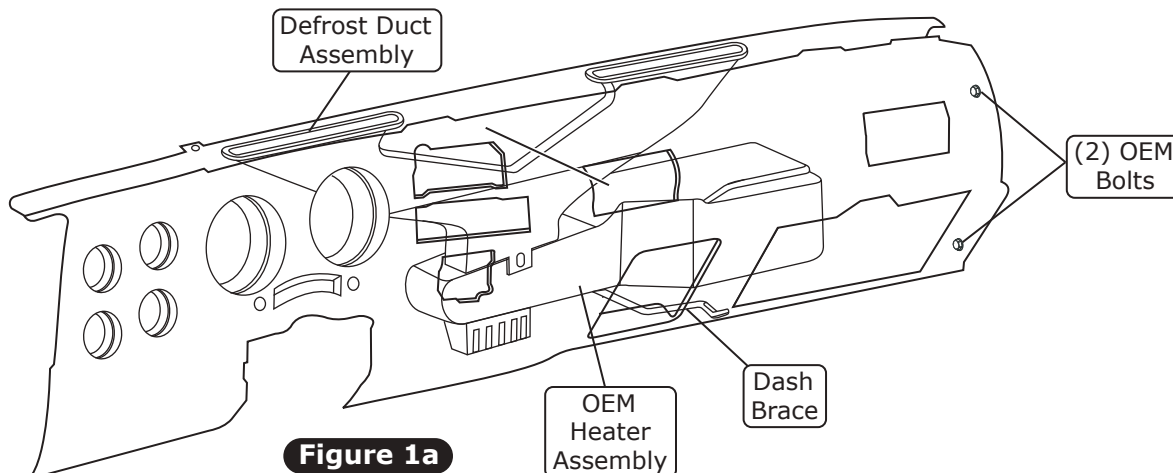

Figure 1a
NOTE: For ease of installing the evaporator under the dash, it may be helpful to remove the (2) OEM bolts under the dash on the passenger-side door pillar and pull back the dash. Some models may be equipped with a dash brace (remove and retain) (See Figure 1a, below).
8. Remove the OEM heater assembly (discard) (See Figure 1a, below).
9. Remove the defrost duct assembly (discard) (See Figure 1a, below).